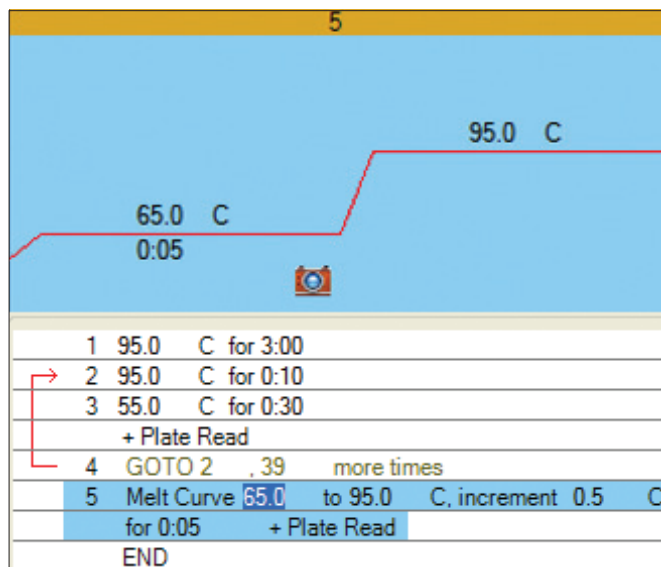

Fig. 4. Insert Melt Curve step in the Protocol Editor. A melt curve step is highlighted in blue in the graphical and text displays of the protocol.
2. In the graphical or text display, click the temperature values to edit the lowest and highest temperatures of the melt curve range (Figure 4, Step 5).